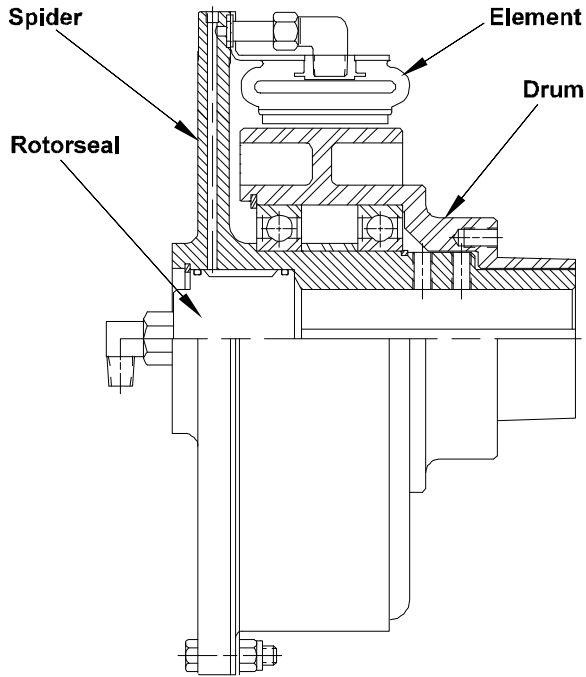

Figure 5
2.1.4 Airflex offers several economical packaged applications utilizing CB elements. Figure 5 illustrates an Airflex sheave clutch, incorporating a built in rotor seal and sealed ball bearings. A wide range of sheave sizes can be used with this type of package.